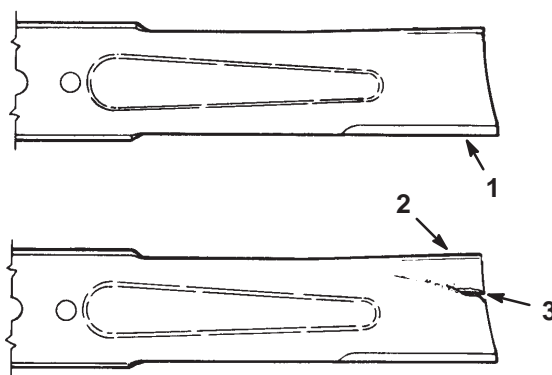

Figure 40
1. Inspect the cutting edges (Fig. 40). If the edges are not sharp or have nicks, remove and sharpen the blades. Refer to Sharpening the Blades on page 33.
2. Inspect the blades, especially the curved area (Fig. 40). If you notice any damage, wear, or a slot forming in this area (item 3 in Fig. 40), immediately install a new blade.